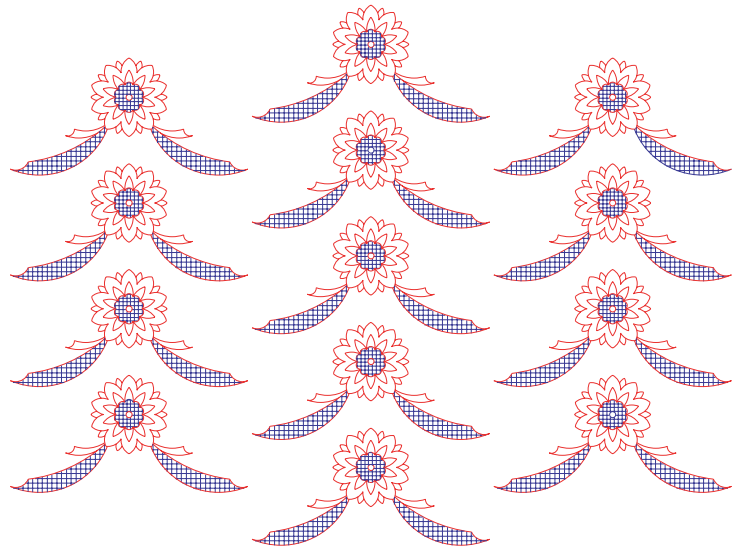

Fig. 10.24 Exercise I – original pattern
1. Fig. 10.24 shows a pattern formed by inserting an **external reference** and then copying or arraying the **external reference**.